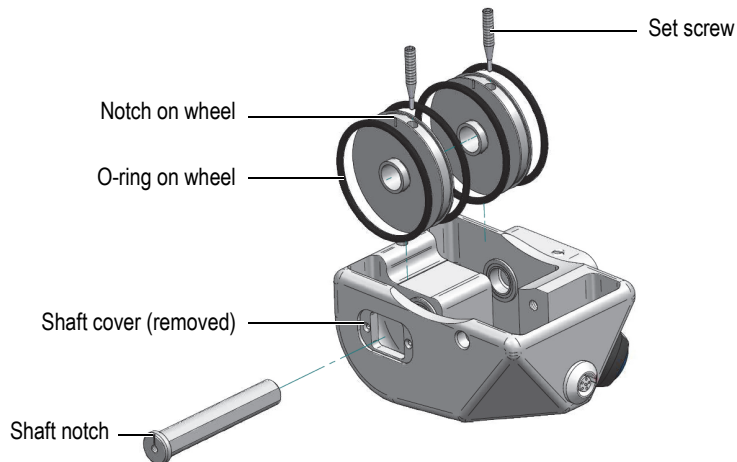

Figure 3-1 Encoder shaft and wheels
Two wheels are mounted on a single shaft that connects to the encoder. The shaft and wheels are shown in a disassembled state in Figure 3-1 on page 31.
2. Carefully pull the O-rings away from the wheel groove to expose the set screws (see Figure 3-1 on page 31).